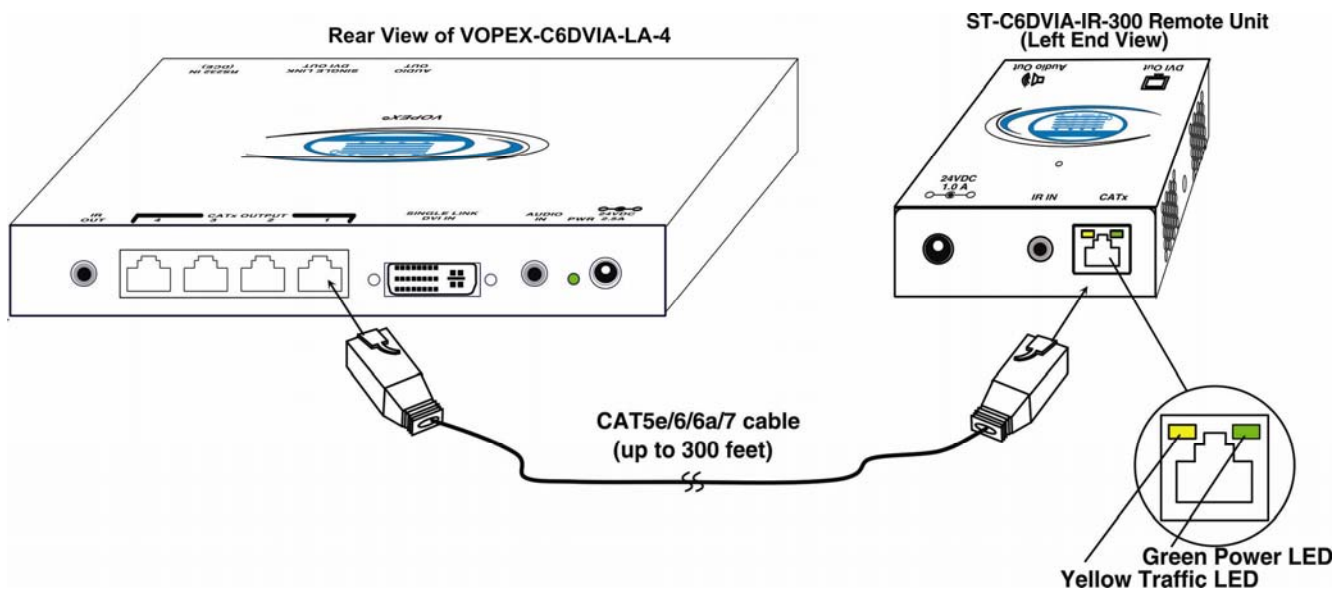

Figure 4- Connect a CATx cable between the VOPEX and each Remote Unit
3. Plug the AC adapter/power cord into a power outlet. The green LED on the VOPEX and the green LED on the RJ45 connector of each XTENDEX Remote Unit should illuminate, indicating that a proper power connection has been made to them. (See Figure 4)
Note: The yellow LED on the RJ45 connector of each XTENDEX Remote Unit will illuminate anytime data traffic is passing between the VOPEX and the XTENDEX, indicating proper CATX cable connection and communication. (See Figure 4)